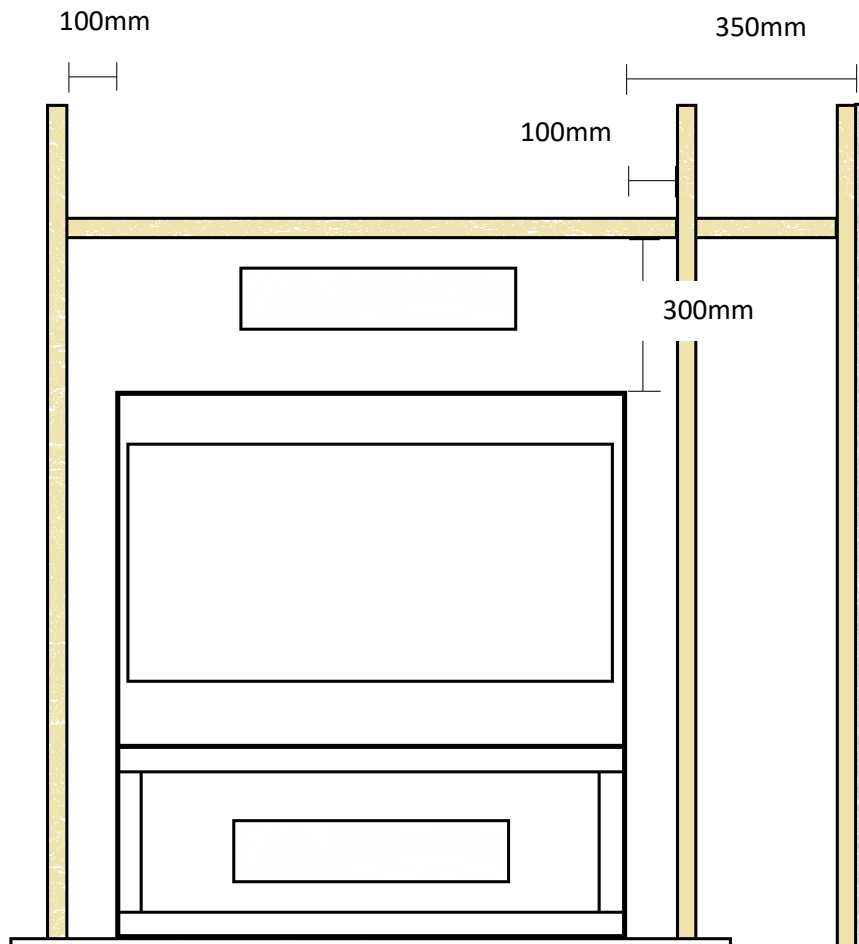

Fig. 3
- If the heater is required to be built into cabinetry to either side of the heater, the minimum clearance to a solid combustible wall is 350mm; as long as no vents included on that side. See Fig. 3 shown on RHS of heater.